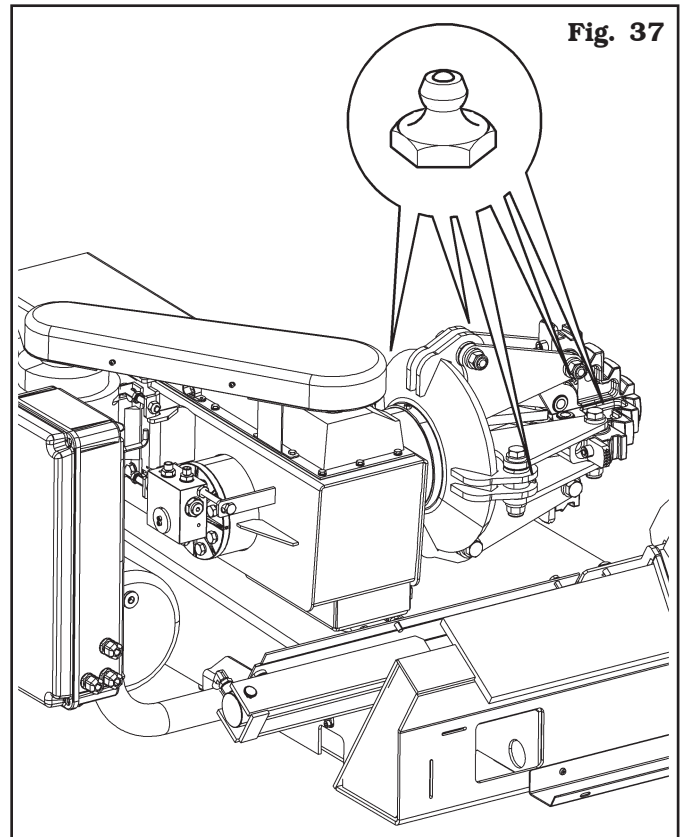

Fig. 37
- Periodically (preferably once a month), grease all moving parts of the machine (see **Fig. 37**).